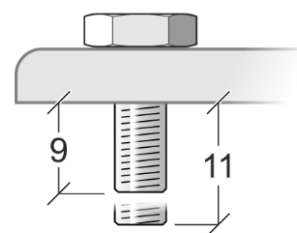

Figure 5. Min./max. bolt protrusion into fixture base (millimeters)
2. See Figure 5. Pass two M10 grade 8.8 steel bolts or screws through the two rigging clamps and check that the bolts will protrude minimum 9 mm / 0.35 in. and maximum 11 mm / 0.43 in. into the base of the fixture when tightened.